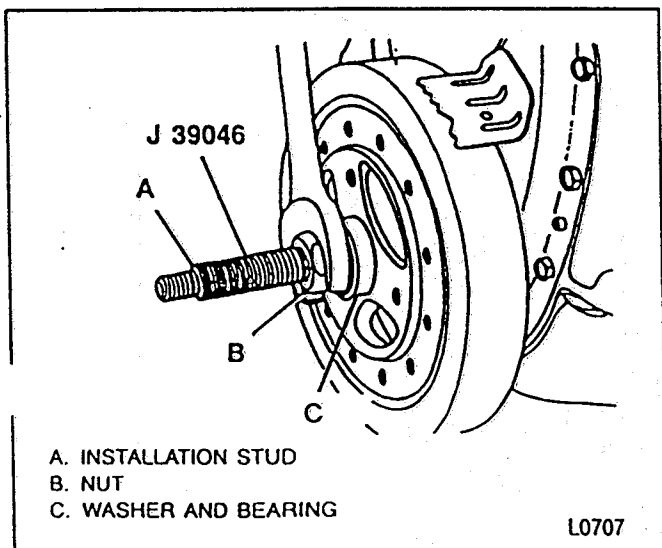

Figure 77—Installing the Torsional Damper
Install or Connect (Figure 77)
2. Stud (item A, figure 77) to the crankshaft. Thread the stud fully into the tapped hole in the crankshaft.
4. Bearing, washer, and nut (figure 77).